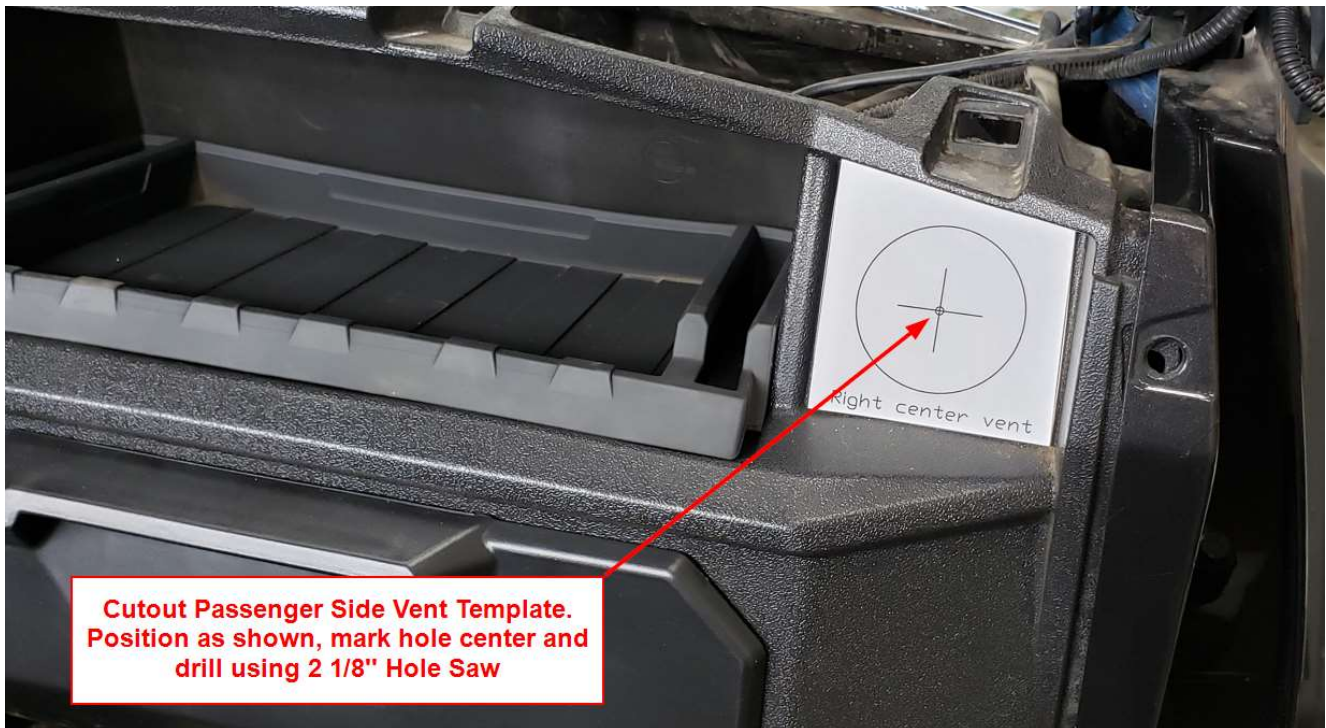
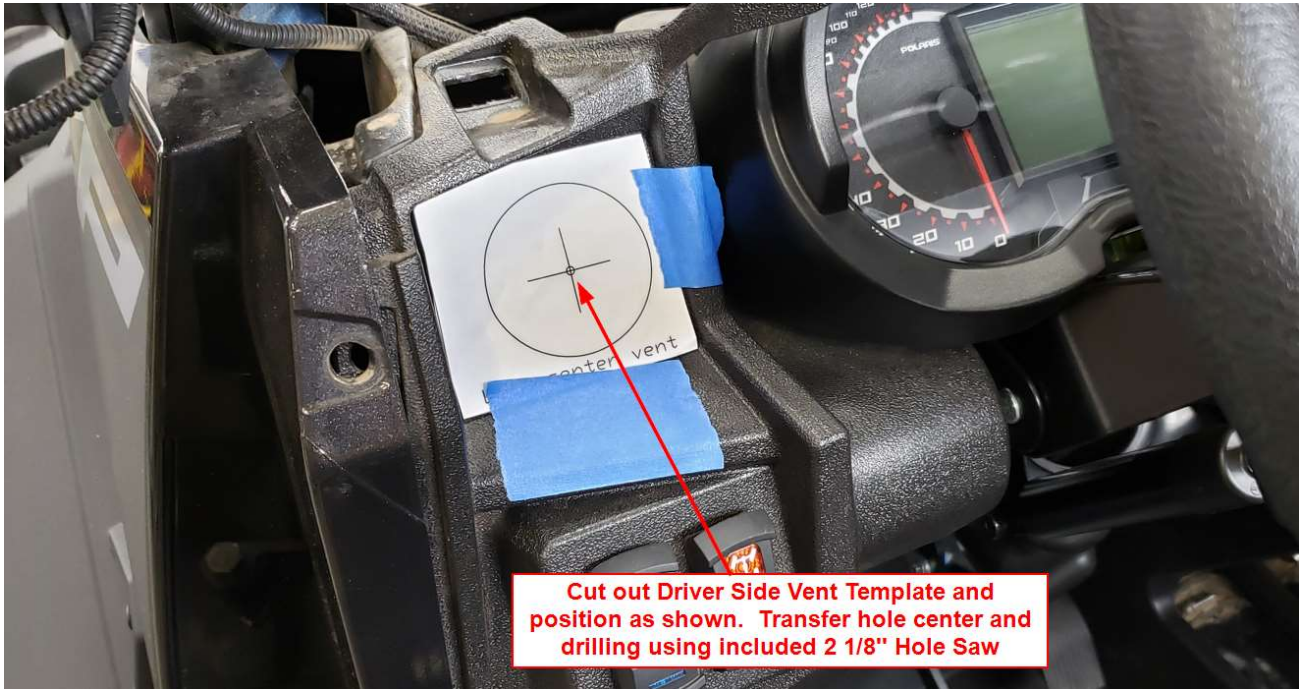

Figure 8
Figure 9
- b. Cut out the Driver and Passenger Side Vent Templates and position them as shown in Figure 8 and Figure 9. Mark the hole centers and drill using the 2 1/8" Hole Saw included in the kit. Debur as necessary and cut the "V" shaped notch as mentioned before.